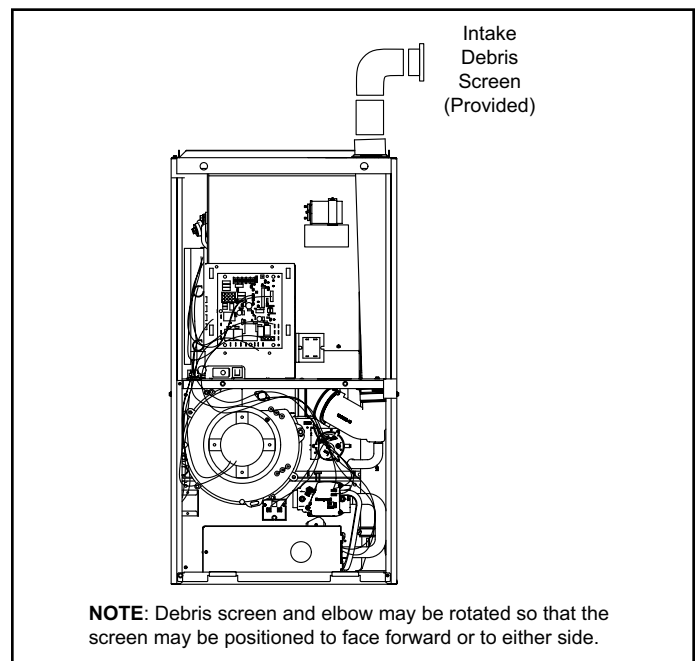

Figure 24. Typical Air Intake Pipe Connections (Non-Direct Vent Applications)
1. Use field-provided materials and the factory-provided air intake screen to route the intake piping as shown in Figure 24. Maintain a minimum clearance of 3" (76 mm) around the air intake opening. The air intake opening (with the protective screen) should always be directed forward, or sideways.